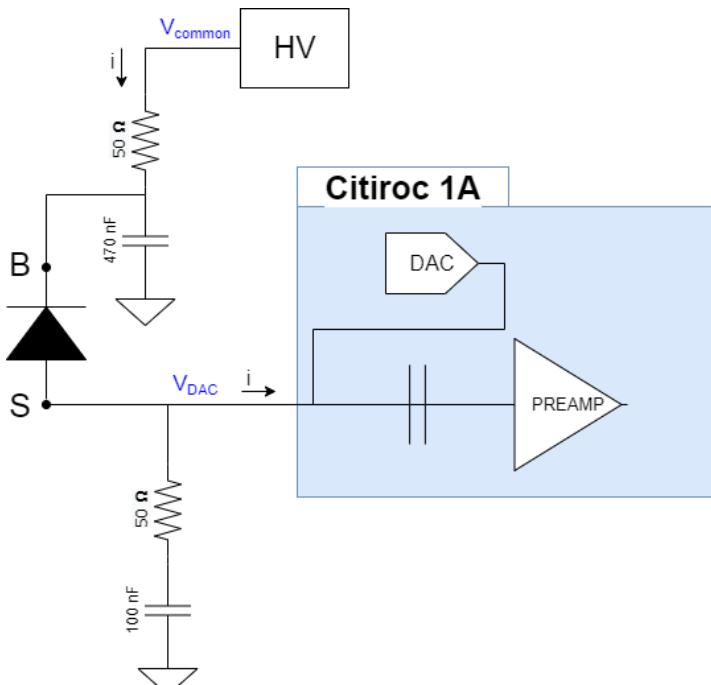

Figure 10.3: SiPM connection scheme to the ASIC and biasing lines
The SiPM bias is provided onboard by the CAEN A7585D Power Supply module, which is extremely low noise (no additional filters needed). The bias lines for SiPMs are grouped eight by eight and connected to the A7585D through a $50\ \Omega$ resistance in series, as shown in **Figure 10.3**: SiPM connection scheme to the ASIC and biasing lines **Figure 10.3**. The provided PCB adapter, instead, is equipped with independent filters for each bias line to be fed into the SiPMs.
Since the A7585D feeds the SiPM cathodes with positive high voltage bias (B), the anodes of SiPMs are independently connected to the ASIC input lines (S), accepting positive signals (see **Figure 10.3**). At the ASIC input stage, an 8-bit DAC allows to perform a fine tuning of the bias, individually for each SiPM channel. The voltage can be adjusted in the range 0-4.5 V. This is important in particular to tune the gain of each element, especially when connecting single SiPMs, which can have a spread on the breakdown voltage up to 400 mV. Increasing the DAC value has the effect of lowering the effective bias voltage on the SiPM.